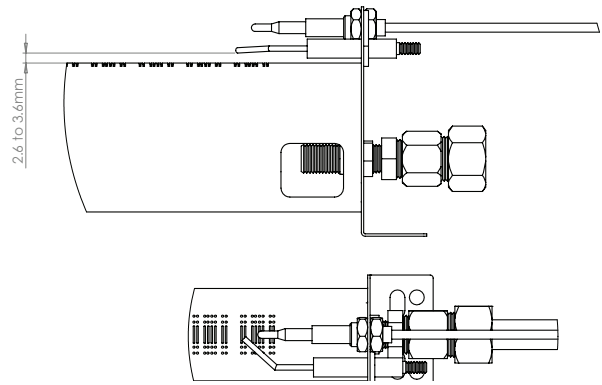

Figure 12
Replace in reverse order, ensuring correct dimensions for Spark electrode and FFD Thermocouple. (fig 12)
Remove fascia panel as detailed in Section 3.2.1. Remove hob fitments. See Sections 3.2.2 or 3.2.3 as required. Remove RH side panel. Undo thermocouple nut at thermostat rear. Open over doors. remove shelves and base plate. Undo nut that secures thermocouple to burner bracket. Remove sensor from burner bracket. Release thermocouple from clips in oven chamber. Remove Thermocouple by feeding through slot in oven side panel. Replace in reverse order, taking care not to over tighten, ensure side wall insulation around thermocouple access slot is undamaged then ensuring position as indicated in Figure 12.
Igniter is piezo spark type and contains no batteries. Unit comprises piezo spark igniter, lead and electrode assembly. Lead and earth lead are push-fit at igniter end. Oven igniter electrode, Thermocouple, and burner ports should be aligned as indicated in Figure 12.
Remove oven shelves and base plate. Remove tie wraps and pull back insulated sleeve. Disconnect igniter lead from electrode. Undo fixing that secures electrode to burner bracket. Remove electrode and replace in reverse order ensuring position is as indicated in Figure 12.
Important: if spark is present but burner will not light, ensure gas is present and dimensions are as (Fig 12)
7. OVEN ONLY - If there is no spark then check spark dimensions (fig 12) and HT lead connections. Also check igniter.
8. OVEN ONLY – Note: Spark may be present but will still not light burner unless dimensions relative to burner are as Fig 12.
Note: If after adjusting the electrode to the correct dimensions (**fig 12**), a spark is not present, or is present but will not light burner, check the following:
1. Check thermocouple is positioned correctly in burner flame. (**fig 12**) Burner ports must be clean.